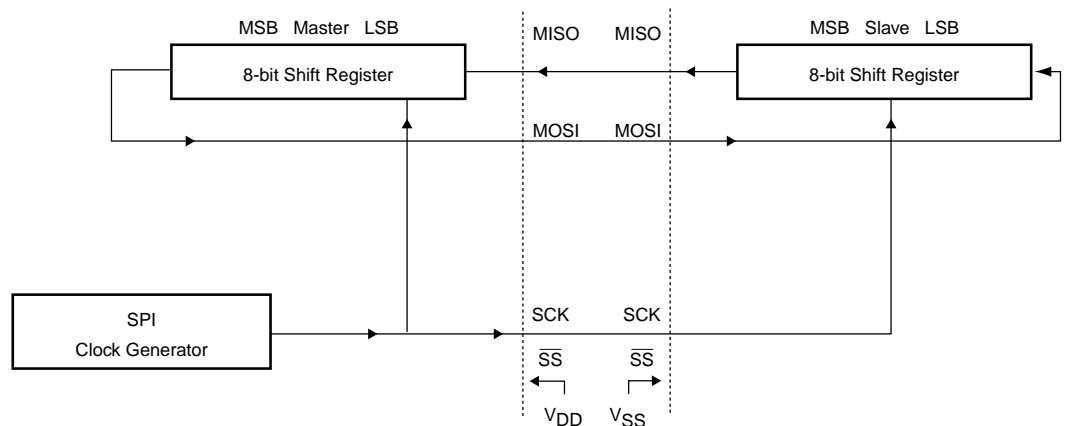

Fig 17. SPI master-slave interconnection.
The serial peripheral interface (SPI) allows high-speed synchronous data transfer between the P89LV51RB2/RC2/RD2 and peripheral devices or between several P89LV51RB2/RC2/RD2 devices. **Figure 17** shows the correspondence between master and slave SPI devices. The SCK pin is the clock output and input for the master and slave modes, respectively. The SPI clock generator will start following a write to the master devices SPI data register. The written data is then shifted out of the MOSI pin on the master device into the MOSI pin of the slave device. Following a complete transmission of one byte of data, the SPI clock generator is stopped and the SPIF flag is set. An SPI interrupt request will be generated if the SPI Interrupt Enable bit (SPIE) and the Serial Port Interrupt Enable bit (ES) are both set.